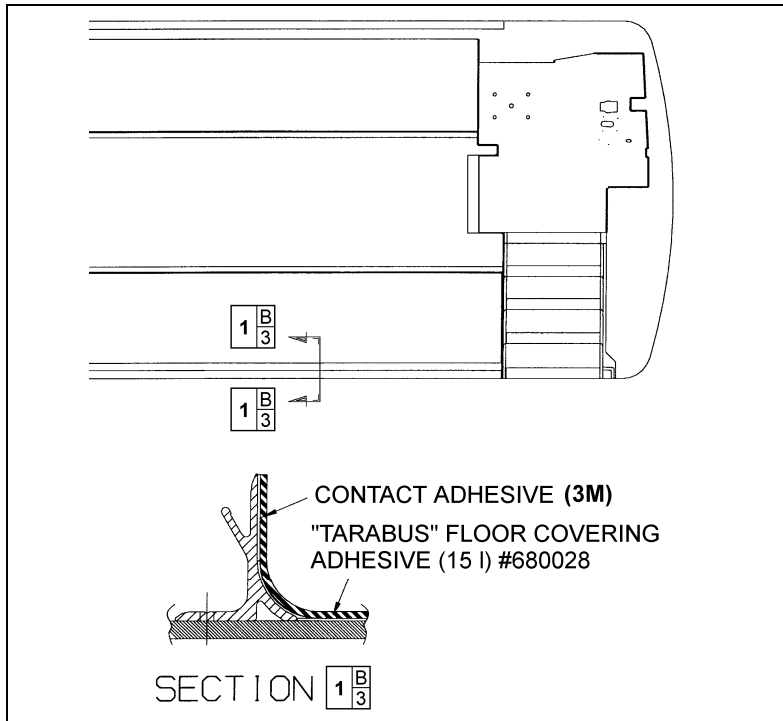

FIGURE 89: TARABUS FLOOR COVERING ADHESIVE APPLICATION 18640
6. Apply floor covering adhesive (680028) onto plywood using a serrated spreader with 1/8-inch serration. If required, apply contact adhesive (3M) (684655 or 684654) onto aluminum molding and also onto section of floor covering, which will be in contact with molding (refer to Figure 89).